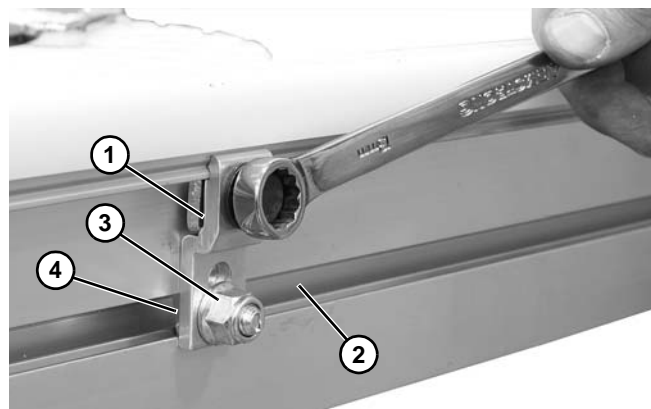

Figure 85
1. Install clip assembly (**Figure 85, item 1**) into side rail channel (**Figure 85, item 2**). The end clips should be no greater than 12" from the end of the conveyor.
*Make sure that the studs (**Figure 85, item 4**) rotate inside the channel and engage with the conveyor.*
2. Fasten clip (**Figure 85, item 1**) to conveyor with nut (**Figure 85, item 3**) on stud.